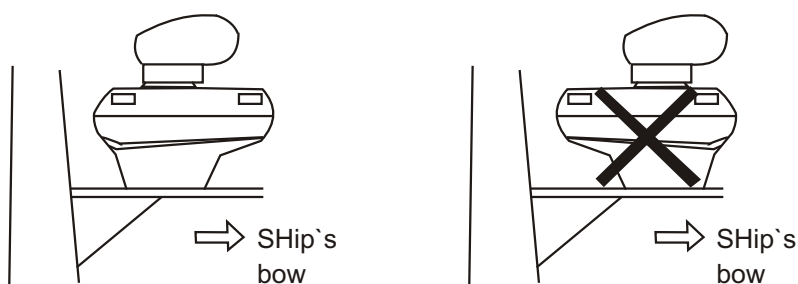

Figure 6-6 How to orient the antenna unit
3. Place the antenna housing on the mounting platform and orient it as shown in Figure 6-6.